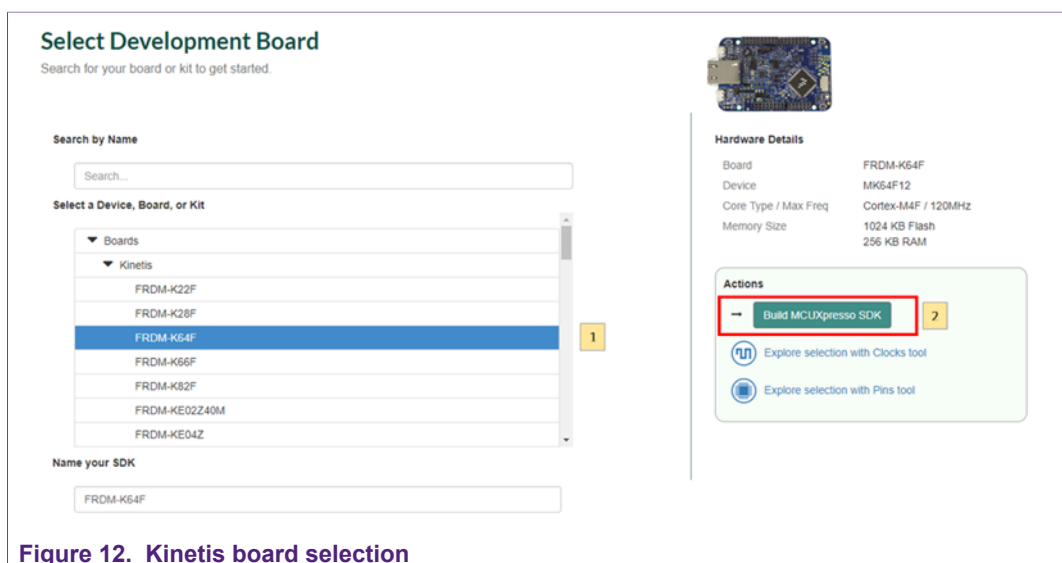

Figure 12. Kinetis board selection
1. Select your Kinetis FRDM board and click on ‘Build MCUXpresso SDK’; in this case the selected board is the *FRDM-K64F*. See Figure 12.